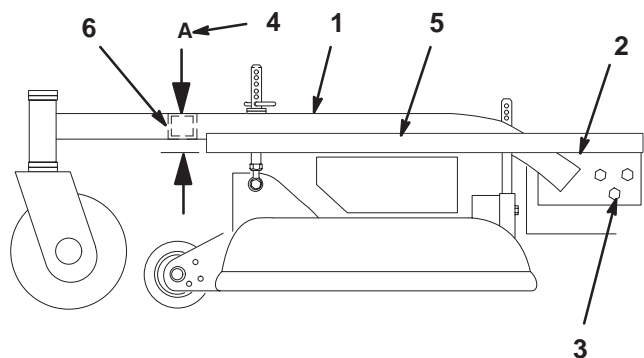

Figure 46
2. Place a long straight edge on top of the engine deck as shown in figure 46.
3. At the carrier frame cross tube, measure location “A” height (Fig. 46). This measurement must be 2–13/16 in. (71.4 mm), plus or minus a 1/4 in. (6 mm).
5. Loosen the carrier frame mounting bolts on both sides of the machine (Fig. 46).
6. Align the carrier frame and engine deck to match 2–13/16 in. (71.4 mm), plus or minus a 1/4 in. (6 mm) at location “A” (Fig. 46).